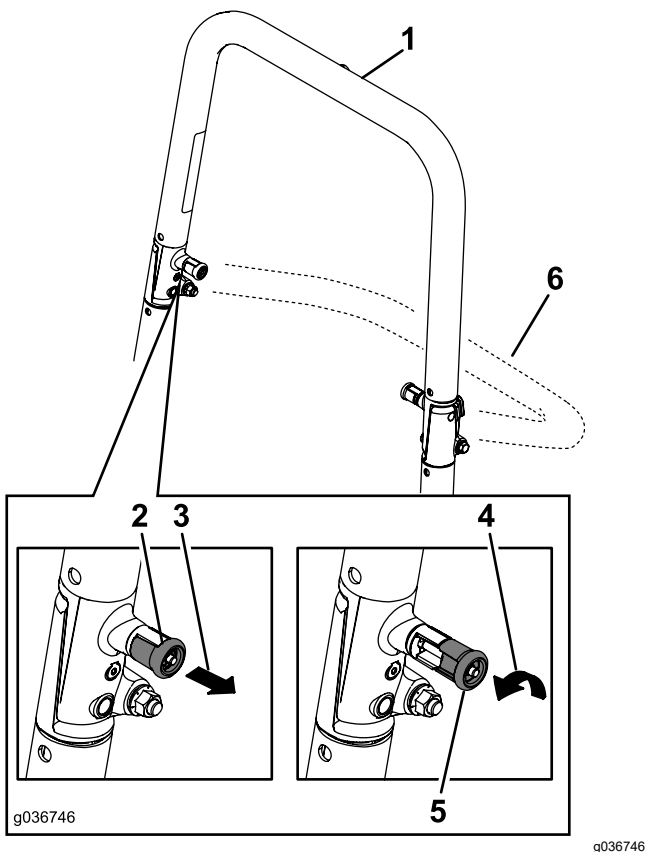

Figure 11
2. Pull both knobs out and rotate them 90 degrees so that they are not engaged (Figure 11).
3. Lower the roll bar to the down position (Figure 11).
1. Raise the roll bar to the operating position and rotate the knobs until they move partially into the grooves (Figure 11).
2. Raise the roll bar to the full upright position while pushing on the upper roll bar so that the pins snap into position when the holes align with the pins (Figure 11).